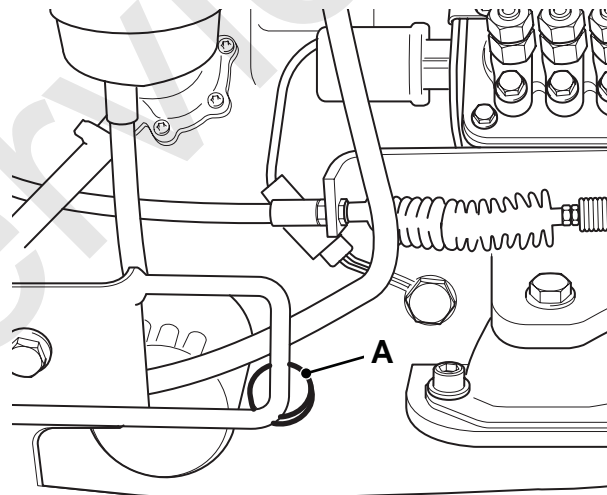

Fig 82.
- 3 Withdraw dipstick and wipe clean, re-insert fully into tube and withdraw to check level. The correct level will show the oil at the top of the hatched area of the dipstick **A**. → Fig 82. (□ 222).